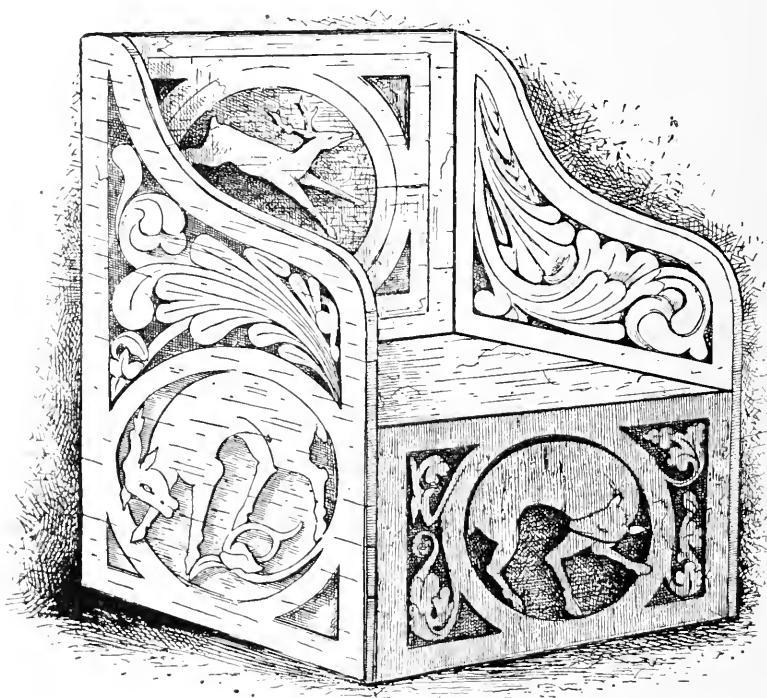

Fig. 69.
*Chairs.* Take any chair, copy it, and then fill the spaces with ornaments to be carved. Large, square, high-backed, old-fashioned chairs admit of the most panelling, and can be made up by any cabinet-maker or carpenter, *vide* Fig. 69. It is a very good plan to always have such objects made up in pieces, carve them